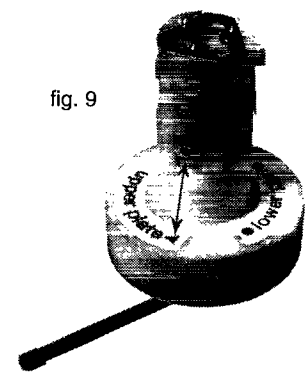

fig. 9
Reach the exact position through pressing the tool down with a force of 1 N. and fix the lower clamping element by turning the lever towards „close“. Remove the tool. Change the tool to „upper clamping element“ and position the clamping element exactly. (Fig. 9)
Compress the two snap hooks by means of a pair of tweezers (Fig. 9) and remove the roller assy (A) from the plate (B).